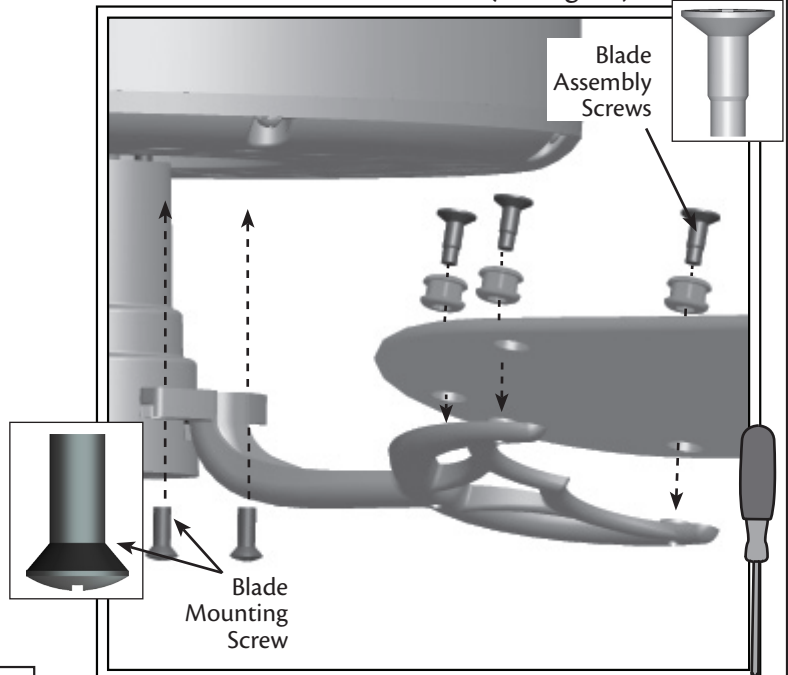

Fig. 14
2. Using a #2 Phillips-head screwdriver, attach each blade to a blade iron using three blade assembly screws, found in the ▲ hardware bag (see Fig. 14).
3. For each blade, insert one blade mounting screw, found in the ✕ hardware bag, through the blade iron, and attach lightly to the fan. Insert the second blade mounting screw, then securely tighten both mounting screws (See Fig. 14) using a #2 Phillips-head screwdriver.